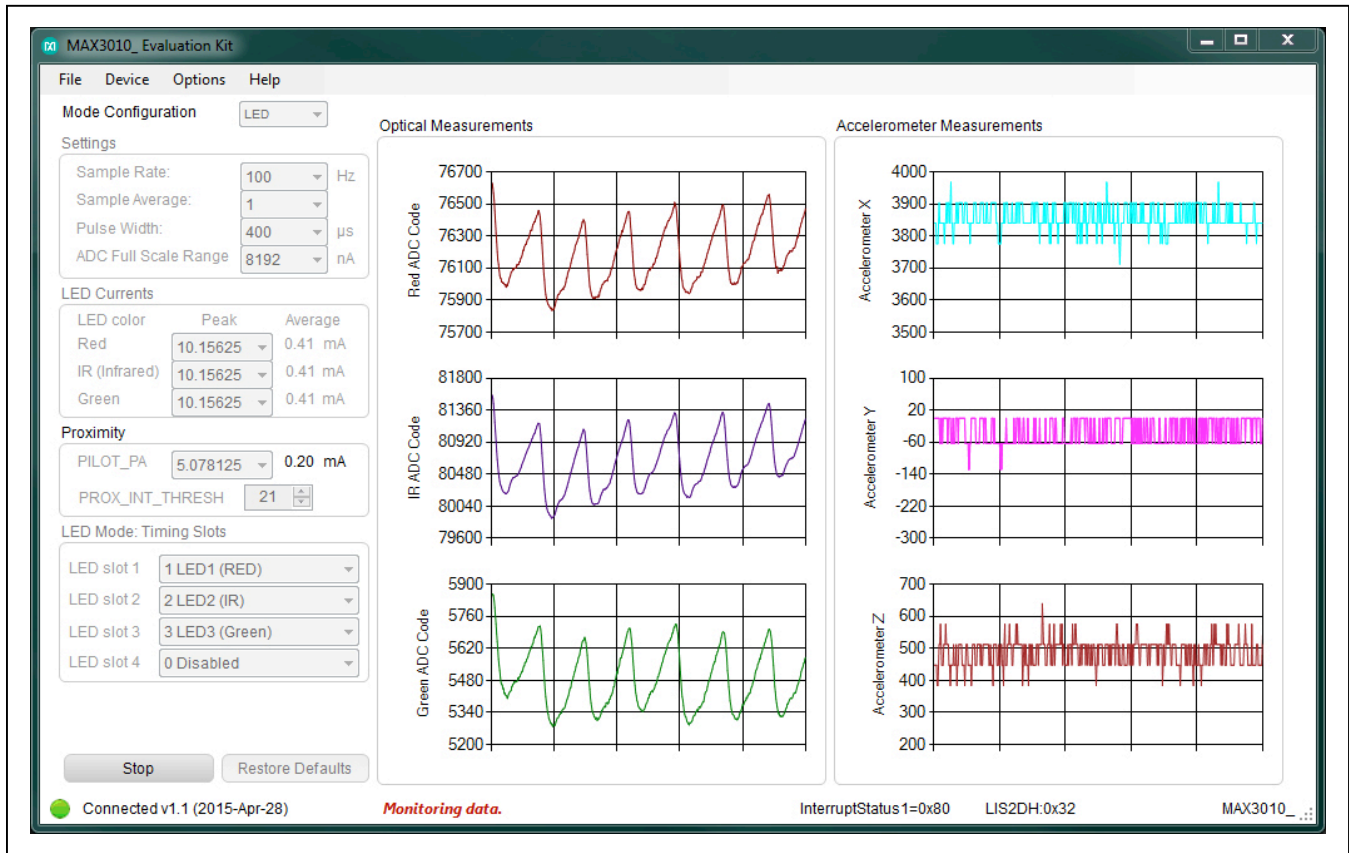

Figure 2. MAX30105 EV Kit Main Window (Sampling Data)
- 7) Direct the LEDs of the MAX30105 (U4) of the EV kit towards the particles of interest and observe the **Measurement** graphs. See Figure 2.